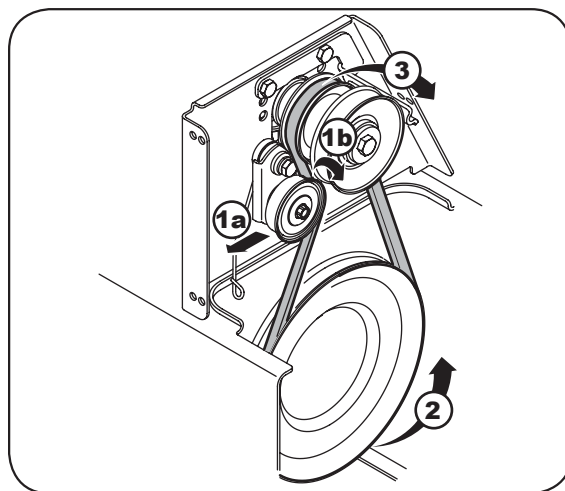

Figure 6-11
- b. Slide the drive belt off the idler pulley. See Figure 6-11. Carefully release the idler pulley.